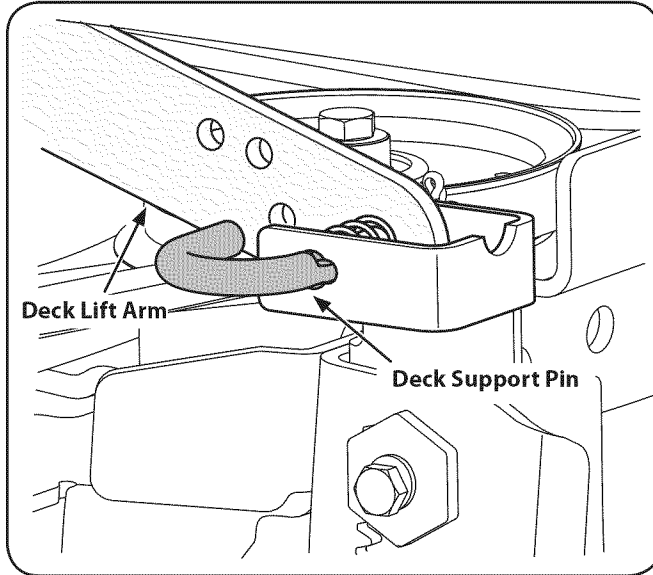

Figure 7-4
6. Pull the deck support pin outward to release the deck from the deck lift arm. See Fig. 7-4.